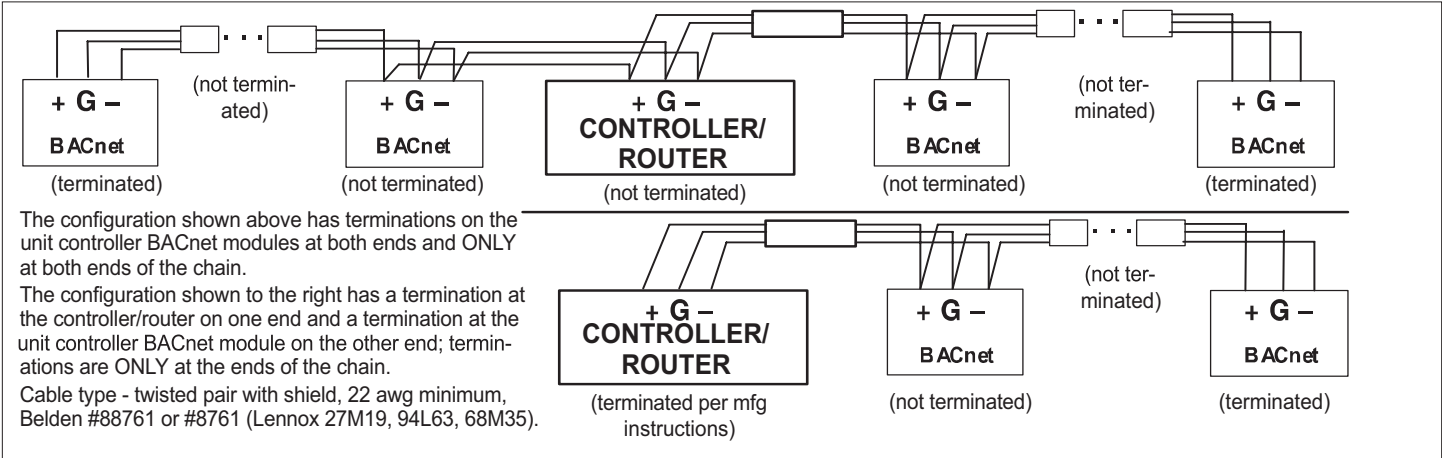

Figure 37. Terminating Ends of a Daisy-Chained Network
- The configuration shown in figure 37 has terminations on the CORE Unit Controller BACnet modules at both ends and ONLY at both ends of the chain.
- The configuration shown to the in figure 37 has a termination at the controller/router on one end and a termination at the CORE Unit Controller BACnet module on the other end; terminations are ONLY at the ends of the chain.